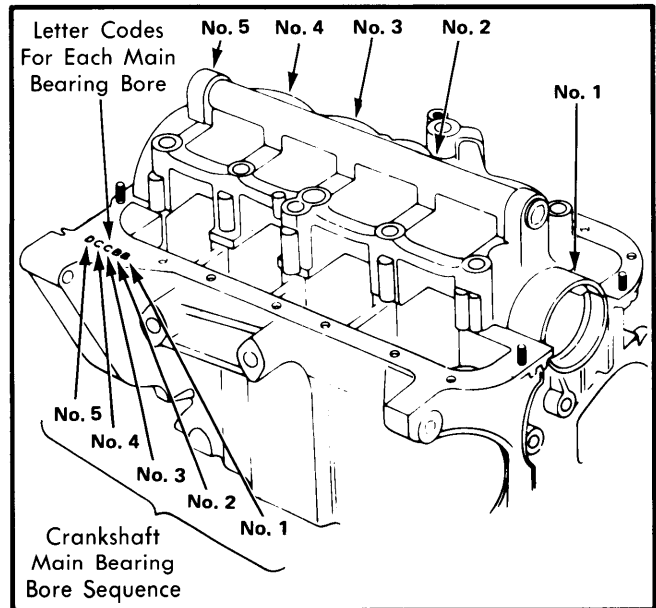

Fig. 7 Crankshaft Identification Locations (1335 cc Engine)
4) Referring to Figs. 7 and 9, note that all letters stamped on crankshaft counterweight pads apply to nearest connecting rod journal. All numbers stamped on crankshaft counterweight apply to nearest main bearing journal. Connecting rod caps have numbers stamped on cap.